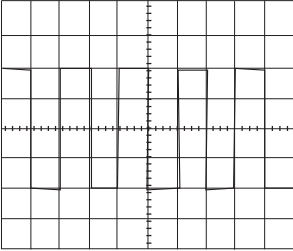

Figure 4-3
- 5)Set the AC-GND-DC switch to the AC state. A waveform as shown in the figure 4-3 Will be displayed on the CRT screen.
- 8)Adjust the▲▼POSITION and◀► POSITION controls in appropriate positions so that the displayed waveform is aligned with the graticule and voltage (Vp-p) and period (T)can be read conveniently.